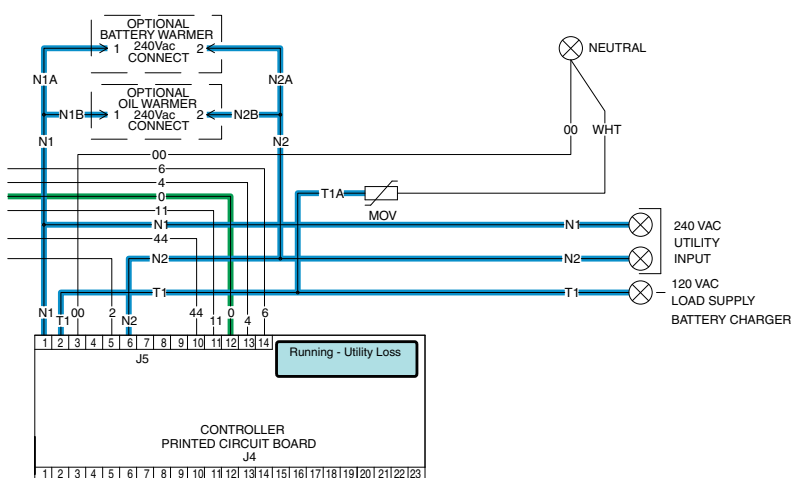

Figure 157.
- Utility voltage is available to the controller via Wire N1 and N2 (see to Figure 157).